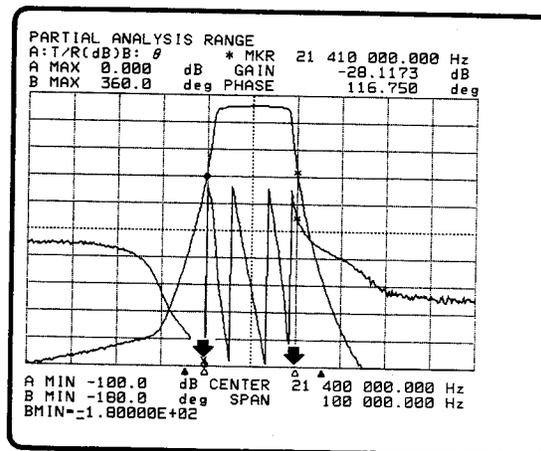

Figure 3-94. Partial Analysis Range
4. Verify the range settings by pressing the **'PART ANA on/off'** softkey, the soft key label should change to intensified green. The "▲" marks will be displayed below the graticule as shown in Figure 3-94.
4. Press the 'PART ANA on/off' softkey the softkey label will change to intensified green. The "▲" marks will be displayed below the graticule as shown in Figure 3-94.